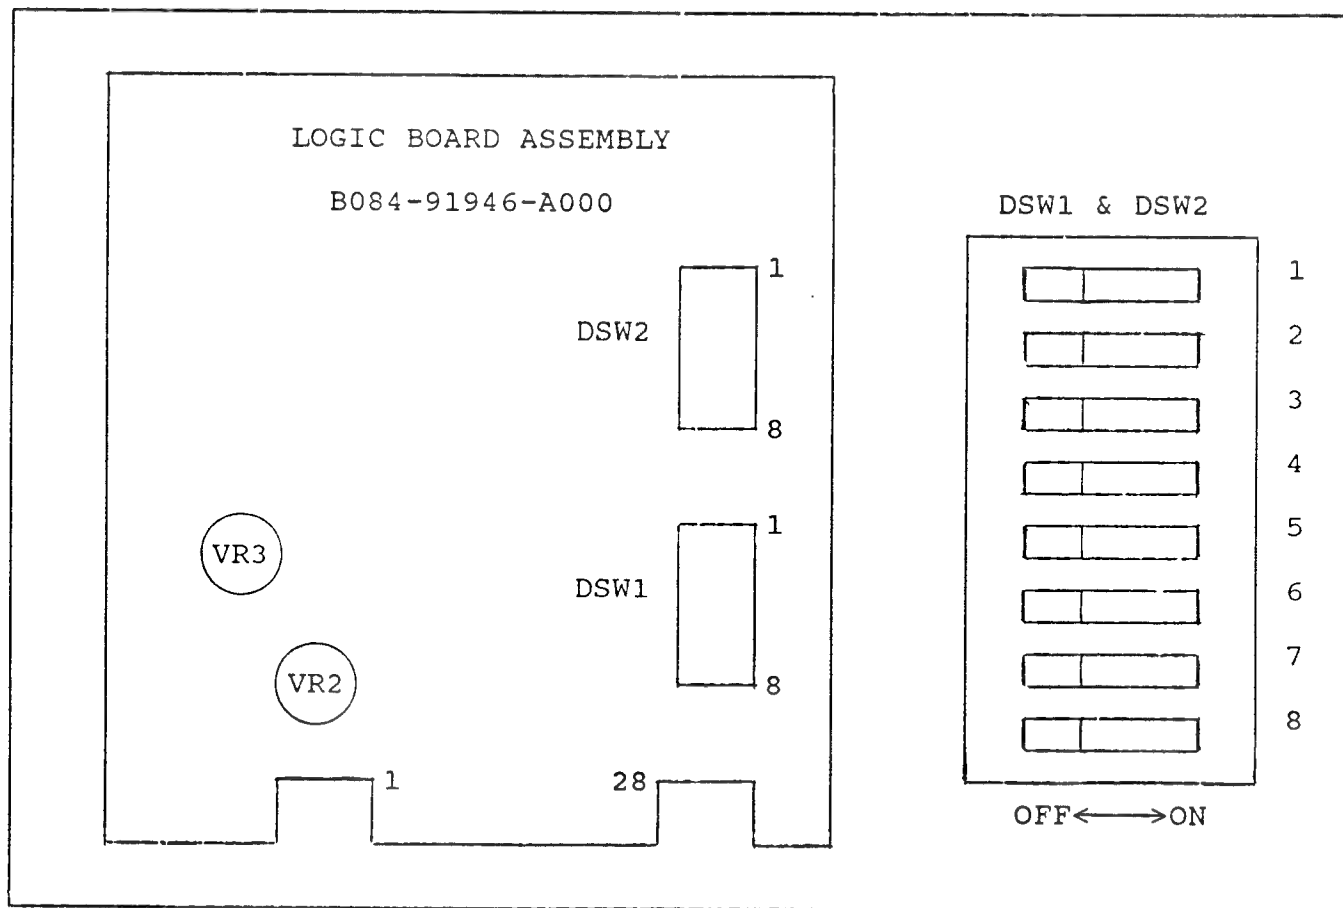

FIGURE 1 - LOGIC BOARD ASSEMBLY REFERENCE ILLUSTRATION
- Figure 1 on page 15.
Step D - Install the new controls, supplied in the Kit, to the newly modified Control Shelf as shown in Figure 1 on page 20 and Figure 2 on page 21.
- C. Referring to Figure 1 - LOGIC BOARD REFERENCE DRAWING on page 10 and the OPTION SWITCH SETTINGS on page 11 & 12, ensure that the DIP Switches DSW1 and DSW2 are set to the Factory Recommended Settings.
Note that neither of the connectors are "keyed". Referring to Figure 1 on page 15, the number "1" appears at the left end of the edge connector on the component side of the Logic Board Assembly. On the solder side of the Logic Board, letters are used as pin numbers. For additional information, see the Wiring Chart on page 23.
There are two (2) Volume Control variable resistors located, along with two (2) Option DIP (Dual-In-Line Package) switches on the Logic Board Assembly. To locate the resistors and DIP switches, see FIGURE 1 - LOGIC BOARD ASSEMBLY REFERENCE ILLUSTRATION.
2. THE DUAL-IN-LINE PACKAGE (DIP) SWITCHES "DSW2" IS LOCATED ON THE LOGIC BOARD ASSEMBLY AS SHOWN IN FIGURE 1 ON PAGE 10.
2. THE DUAL-IN-LINE PACKAGE (DIP) SWITCH "DSW2" IS LOCATED ON THE LOGIC BOARD ASSEMBLY AS SHOWN IN FIGURE 1 ON PAGE 10.